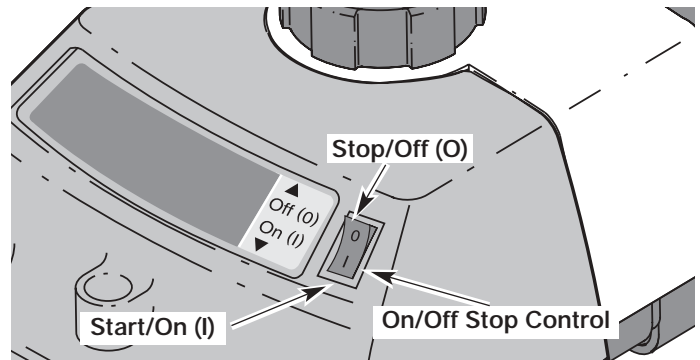
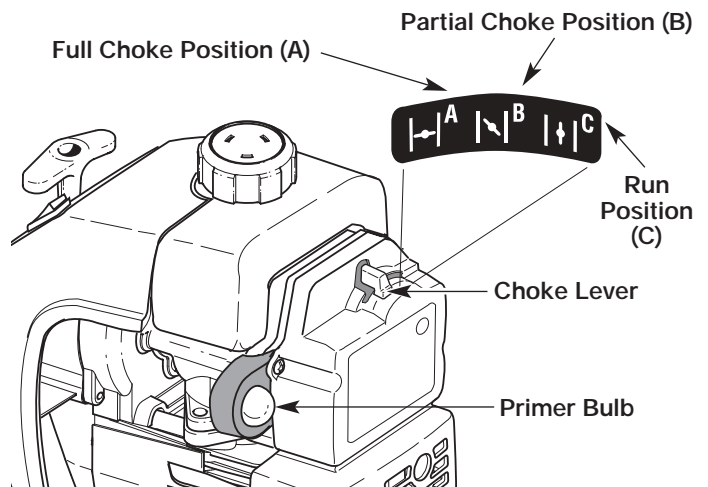

Figure 6
Figure 7
2. Put the On/Off Stop Control in the **ON (I)** position. See Figure 6.
3. Fully press and release the primer bulb 10 times, slowly, until **FUEL IS VISIBLE IN THE PRIMER BULB**. See Figure 7. If you can't see fuel in the bulb, press and release the bulb as many times as it takes before you can see fuel in it.
4. Place the choke lever in the **FULL** choke (A ) position. See Figure 7.
6. Place the choke lever in the **PARTIAL** choke (B ) position. See Figure 7.
NOTE: If the engine floods while trying to start, place the choke lever in the **RUN** (C ) position. See Figure 7. Squeeze the throttle control. Pull the starter rope briskly. The engine should start within three (3) to eight (8) pulls.
9. Squeeze the throttle control to warm up the engine for 5 to 10 seconds. Place the choke lever in the **RUN** (C ) position. See Figure 7.
NOTE: Choking is unnecessary when starting a warm engine. Put the On/Off Stop Control in the **ON** position (Figure 6), and start in **PARTIAL** choke (B ) position (Figure 7). After starting, place the choke lever in the **RUN** (C ) position.
2. Put the On/Off Stop Control in the **OFF (O)** position. See Figure 6.